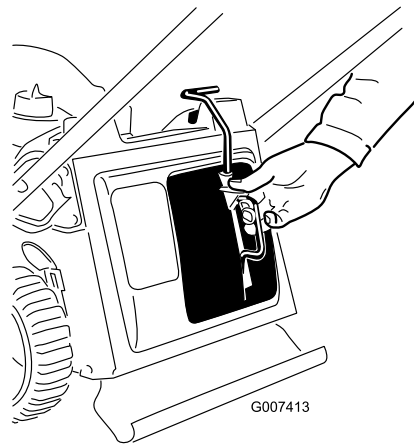

Figure 11
2. Squeeze the button on the lever with your thumb and fully insert the mulch plug into the opening (Figure 11).